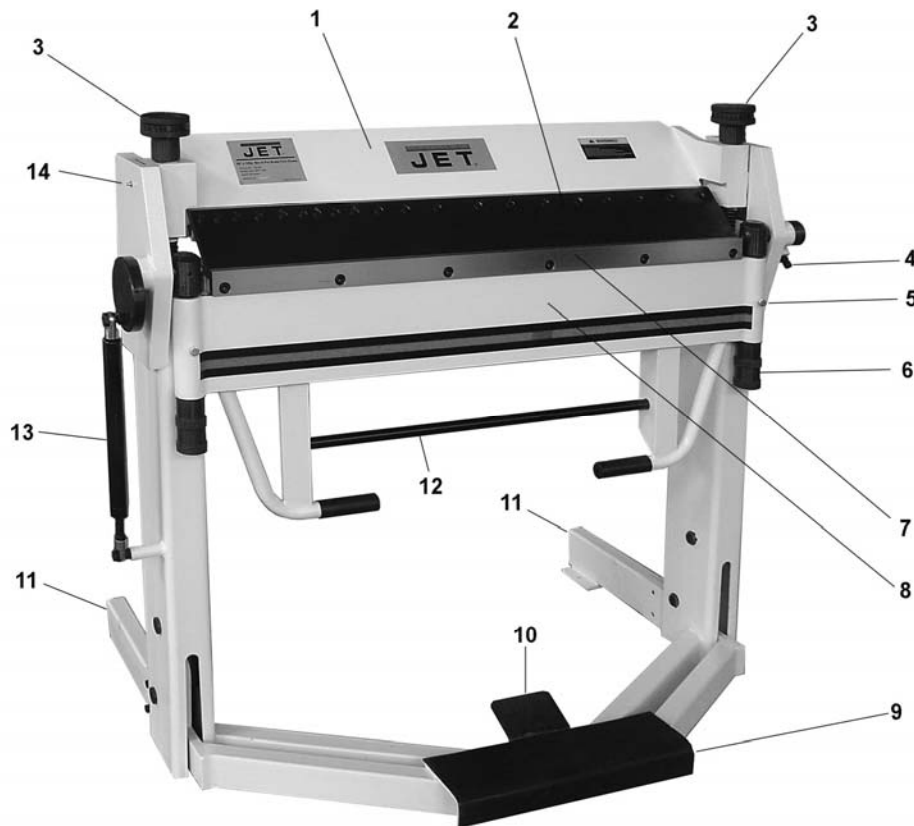

Figure 1
*Numbers in parentheses refer to Figure 1.*